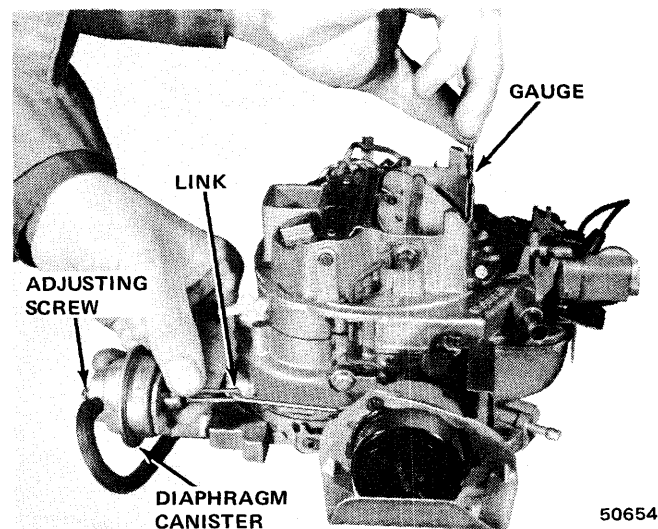

Fig. 4-133 Measuring Initial Choke Valve Clearance
(4) Bottom choke diaphragm against setscrew. Do not press on links.
(5) Measure clearance between lower edge of choke valve and air horn (fig. 4-133).